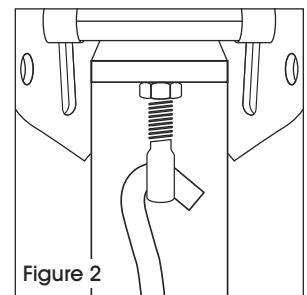

Figure 2
1. Place hook of rod through pull screw. (See Figure 2)
1. Placez le crochet de la tringle à travers la vis de tirage. (Voir Figure 2)